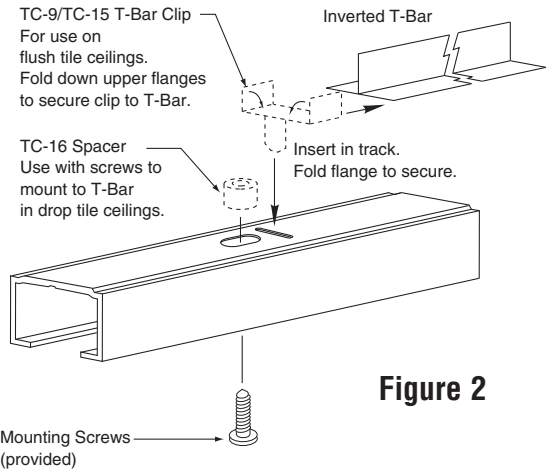

Figure 2
- 1.1 Reference **Figure 2** for steps 1.2–1.5 below.
- 1.2 Use #6 x 1" (25 mm) mounting screws with E-GATC16 spacers in every hole of track to secure track to T-bar. Do not use T-bar clips. See **Figure 2**.
- 2.3 Use #6 x 1" (25 mm) mounting screws with E-GATC16 spacers in every hole of track to secure track to T-bar. Do not use T-bar clips. See **Figure 2**.